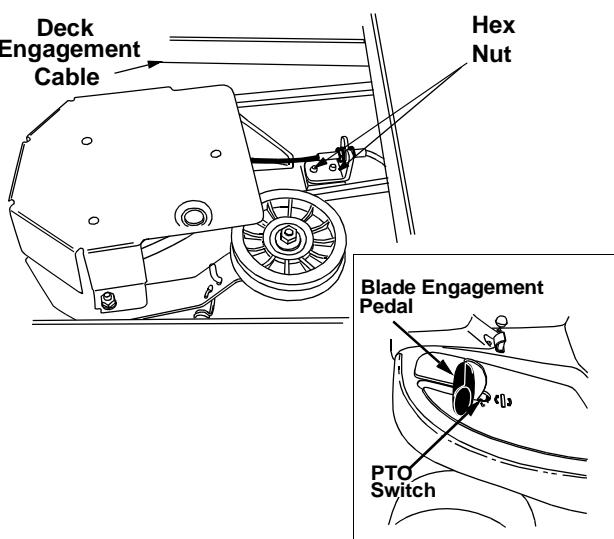

Figure 10
The blade engagement pedal should be adjusted so that if you depress it about 3/4" from the front of the slot, it should start engaging the deck belt. The PTO (power take off) switch is located in the blade brake slot on the left side of the upper frame. See Figure 10 . The brake engagement pedal needs to make contact with the PTO switch for the engine to start.
Adjustment to the blade brake will have to be made at the cable end. See Figure 10.
- If the belt is slipping when you depress the blade engagement pedal about 3/4", loosen the two hex nuts on the cable. See Figure 10.
- If the belt is engaging sooner than when the blade engagement pedal is 3/4" from the PTO switch, tighten both hex nuts on the cable. See Figure 10.